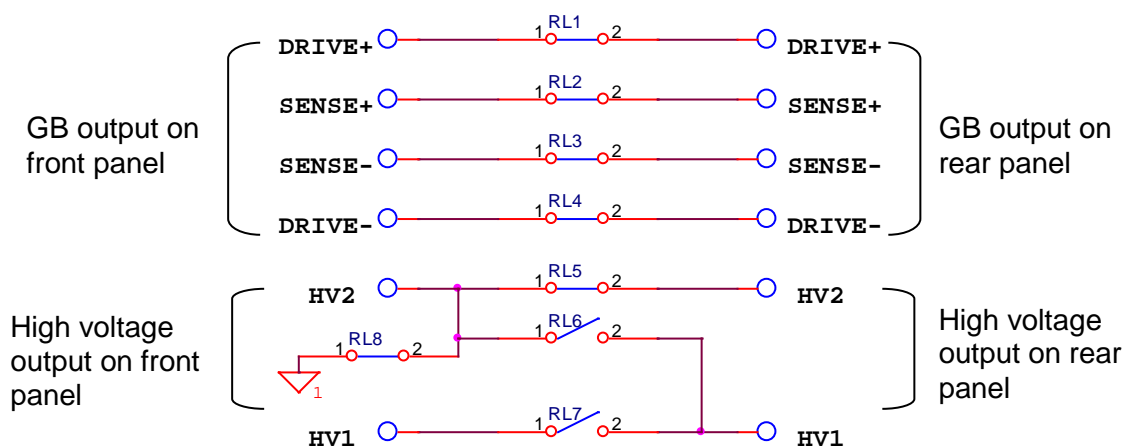

Figure 4-11
- iv. When Channel 3 set to  $\times$  and HV1 terminal on rear panel set to Floating, connection diagram of front panel terminal and rear panel terminal is as *Figure 4-11* shown: